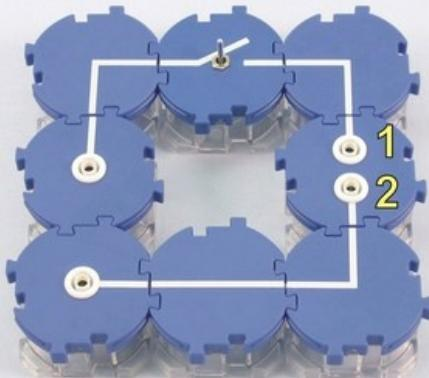

Fig. 1
- Set up the experiment as shown in Fig. 1 and Fig. 2. Connect the ammeter directly to the power supply unit so that sufficient connecting leads are available. Select the measuring range of 3 A-.